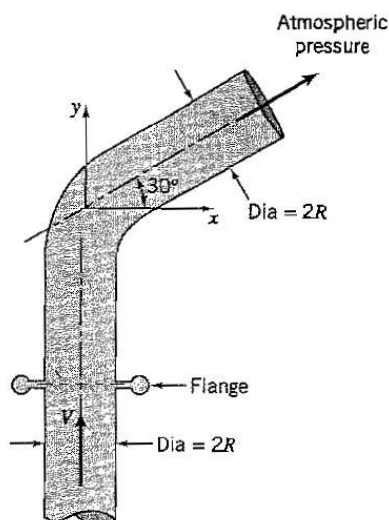

Figure P3.18
3.18 Air of constant density ρ flows at a constant velocity V through a horizontal pipe bend, as shown in Figure P3.18, and exits to the atmosphere. The pipe is circular and has an internal radius R . A force \mathbf{F} must be applied at the flange to keep the bend in place. Find \mathbf{F} in terms of ρ , R , and V . Neglect any pressure changes, and assume that the flow is one-dimensional.